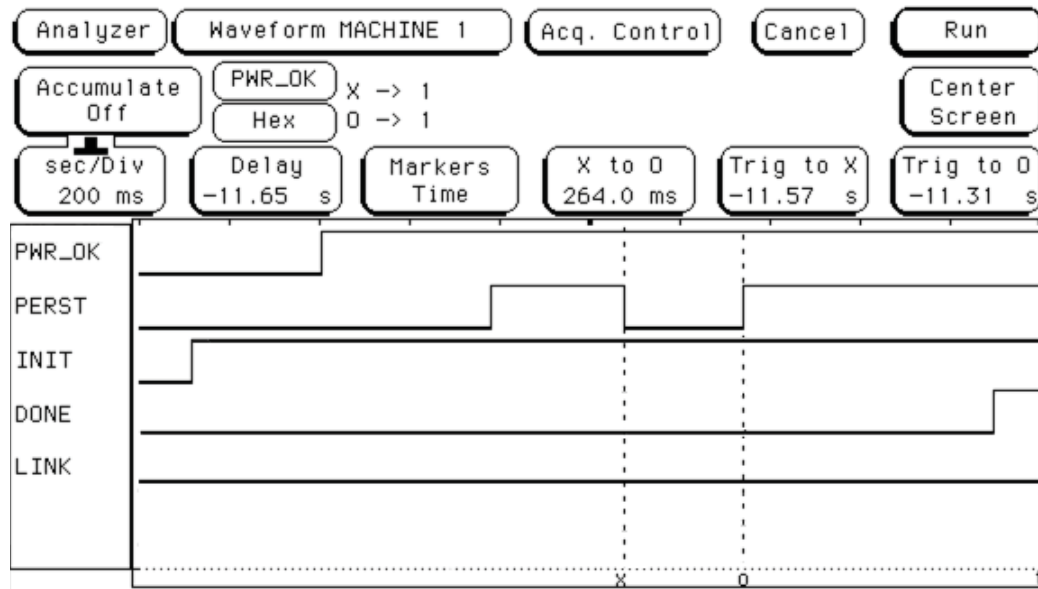
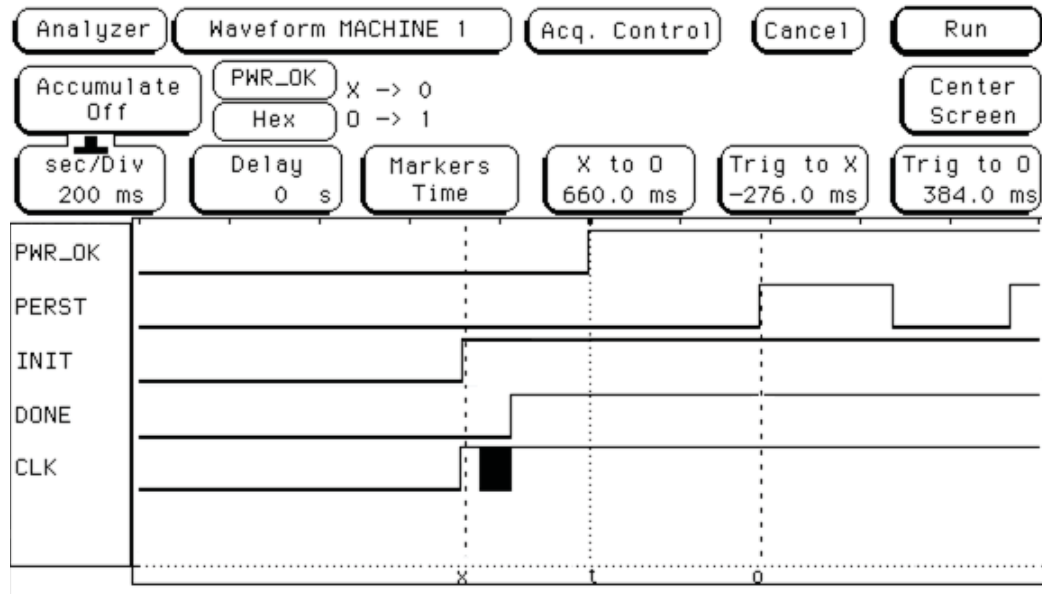

Figure 3-89: Host Fails to Recognize FPGA Due to Slow Configuration Time
Figure 3-90: Host Successfully Recognizes FPGA
This section presents data from an ASUS PL5 system to demonstrate the relationships between Power Valid, FPGA Configuration, and PERST#. Figure 3-89 shows a case where the Endpoint failed to be recognized due to a FPGA configuration time issue. Figure 3-90 shows a successful FPGA configuration with the Endpoint being recognized by the system.
Figure 3-89 illustrates an example of a cold boot where the host failed to recognize the Xilinx FPGA. Although a second PERST# pulse assists in allowing more time for the FPGA to configure, the slowness of the FPGA configuration clock (2 MHz) causes configuration to complete well after this second deassertion. During this time, the system enumerated the bus and did not recognize the FPGA.
Figure 3-90 illustrates a successful cold boot test on the same system. In this test, the CCLK was running at 50 MHz, allowing the FPGA to configure in time to be enumerated and recognized. The figure shows that the FPGA began initialization approximately 250 ms before PWR_OK. DONE going High shows that the FPGA was configured even before PWR_OK was asserted.
1. Check if the motherboard and BIOS generate multiple PERST# pulses at start-up. This can be determined by capturing the signal on the board using an oscilloscope. This is similar to what is shown in Figure 3-89. If multiple PERST# pulses are generated, this typically adds extra time for FPGA configuration.